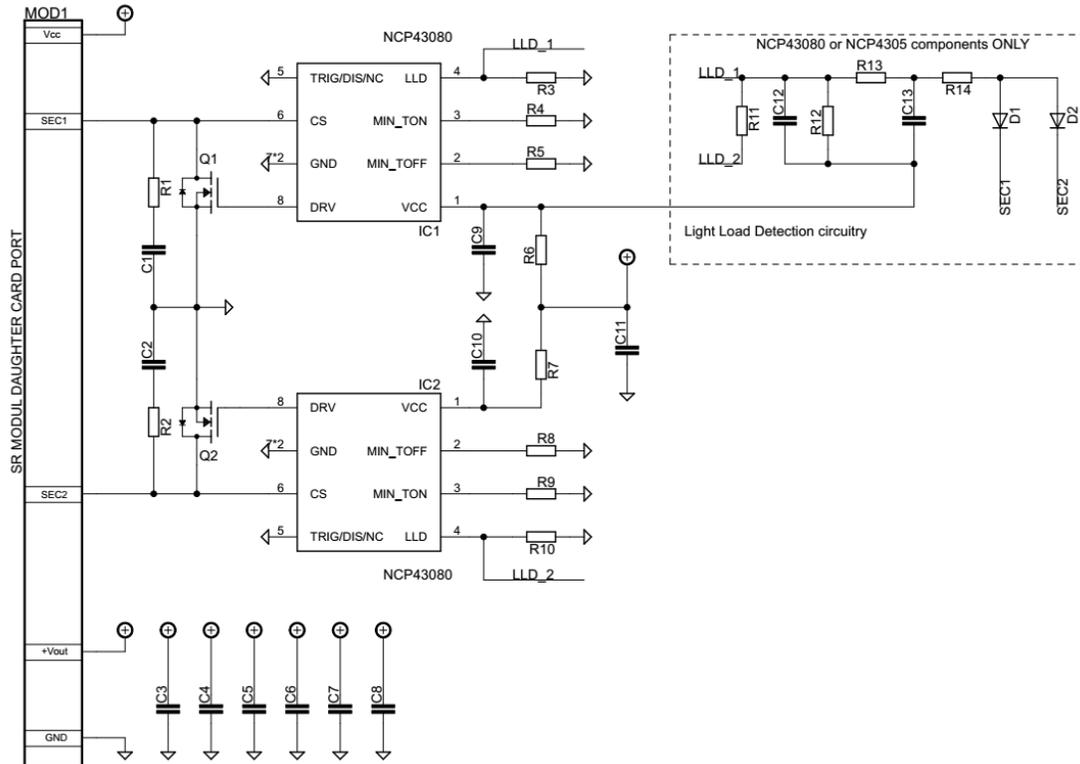

Figure 6. 150 W High Power Density Adapter – Schematic of Synchronous Rectifier Module
Power Switch Module is designed for Silicon Power MOFETs in small SMD package so-called the Power88. In Figure 6 is Power Switch module schematic, where M2 is the low side switch of PFC front stage, M4 and M5 create LLC half-bridge stage. C3, C4, C5, C6 and C7 are HF decoupling MLCC capacitors with same function as afore mentioned. Q1, Q2, Q6 forms emitter followers with Vcc decoupling capacitors C1, C2 and C41. Emitter followers provide buffering of driving signal in case of need – they can be assembled on purpose. Paralleled resistor–diode pairs (D14–R29, D1–R1, D2–R6) set switching slopes of MOSFETs and this way improving EMI signature.
The Synchronous Rectifier Module (Figures 6, 17, 18) consists of two Single N–Channel SO–8FL Logic Level 60V MOSFETs Q1 and Q2, two synchronous rectifier (SR) controllers IC1–2 NCP43080 (or similar part from NCP430x family) and HF decoupling MLCC capacitors C3–8. RC snubber circuits, composed as R1–C1 and R2–C2, are connected across the drain and the source of each MOSFET, to protect them against voltage spikes. C9–11 and R6–7 are components use to filtering and HF decoupling supply voltage for both SR controllers. R4 (R9) and R5 (R8) serve to set minimum ON and minimum OFF switching times of SR controller. Automatic Light Load and Disable mode (LLD pin) is input modulates the driver clamp level and/or turns the driver off during light load conditions. This feature helps to reduce No–load consumption and improves Light–load efficiency. In Figure 6, the Light–Load Detection Circuitry is formed by resistors R11–14, ceramic capacitors C12, C13 and diodes D1–2. If there is a certain reason to not use LLD feature, use R3 (R10) zero ohms to disable it. Then in this situation Light–Load Detection Circuitry doesn’t have to be assembled. When using NCP4306, R3 (R10) resistors can set specific timing of Automatic LLD or disable it fully and external Light–Load Detection Circuitry is not needed anymore. For more detail please see each device specific datasheet.